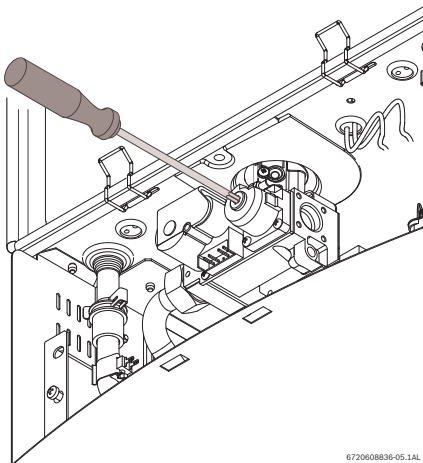

Fig. 71 Adjusting P2 CO₂ level
- ▶ Remove yellow painted #40 Torx cover from the front of the gas valve. (Fig. 71) A plastic #40 Torx screw will be revealed.